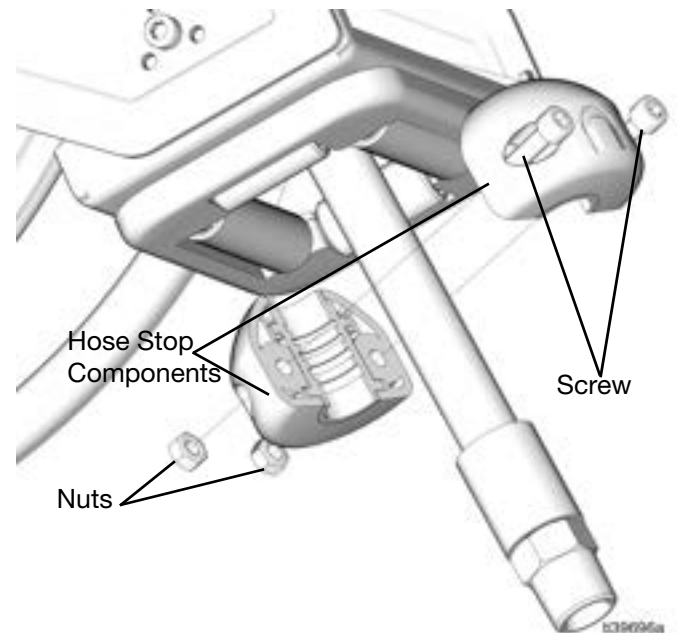

FIG. 13
4. Remove the hose stop from the hose end and put all of the parts in a secure place for re-installation on the new hose (FIG. 13).
- a. Loosen and remove screws and nuts (FIG. 13).
- b. Separate the two hose stop components to remove from the end of the hose (FIG. 13).
8. Insert screws through the hose stop and hand tighten the nuts to hold the hose stop in place (FIG. 13).